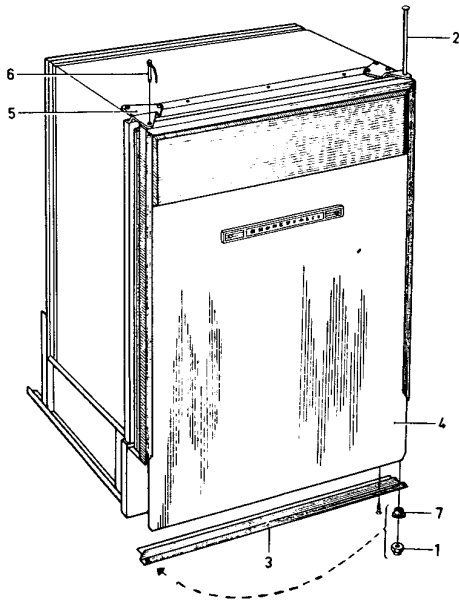

Fig. 51
**To change the door colour (fig. 51)**
**To change the door opening from left to right or vice versa (fig. 51)**